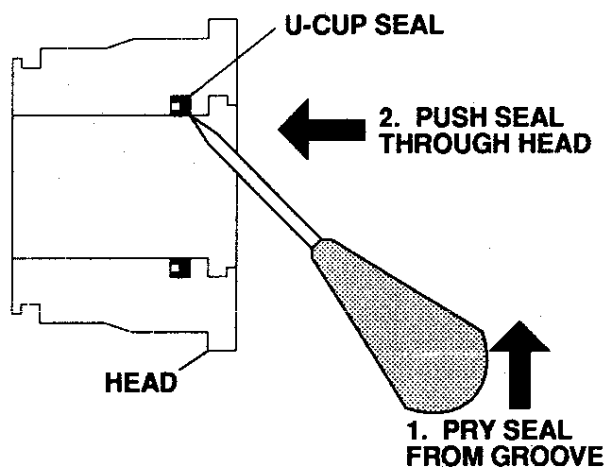

Figure G1-4. ROD SEAL REMOVAL
11. Position the head with the top of the head up and puncture the u-cup seal with the ice pick or awl. Pry it out of the groove and push it through the head. (Figure G1-4).